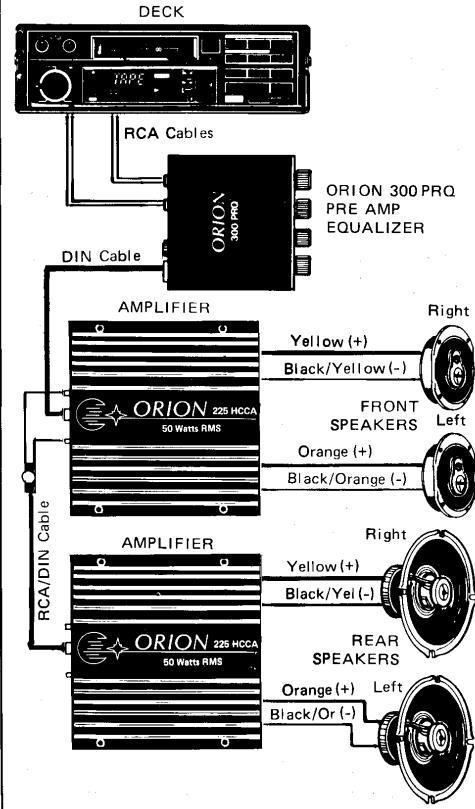

Figure 3. Basic Two-Amplifier System Using Equalizer and Existing Front and Rear Speakers
(2) Front and Rear Speakers. If your car is equipped with front and rear speakers, you will want to use a separate amplifier for each pair of speakers as shown in figure 3. A single 4-channel 425 HCCA could also be used for this system (see figure 16).